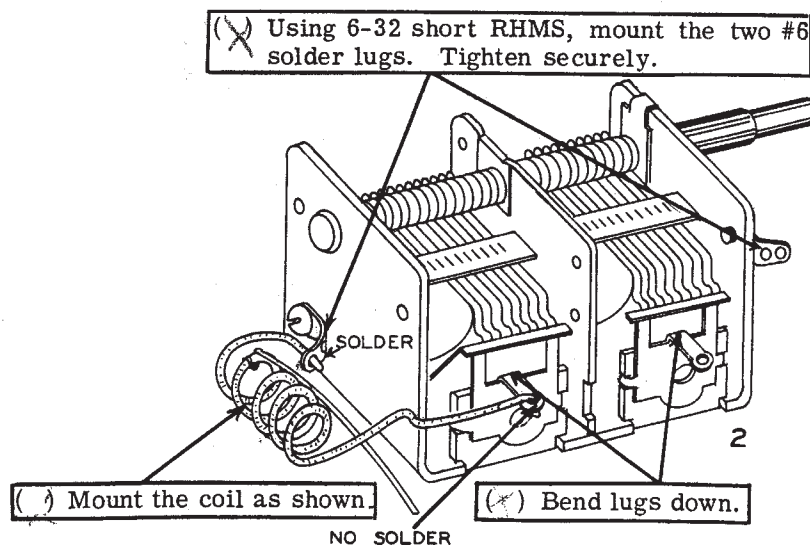

Figure 2
- ( ) Prepare the tuning gang as shown in Figure 2 and mount the assembly on the chassis using three short 6-32 RHMS with lockwashers under the heads.